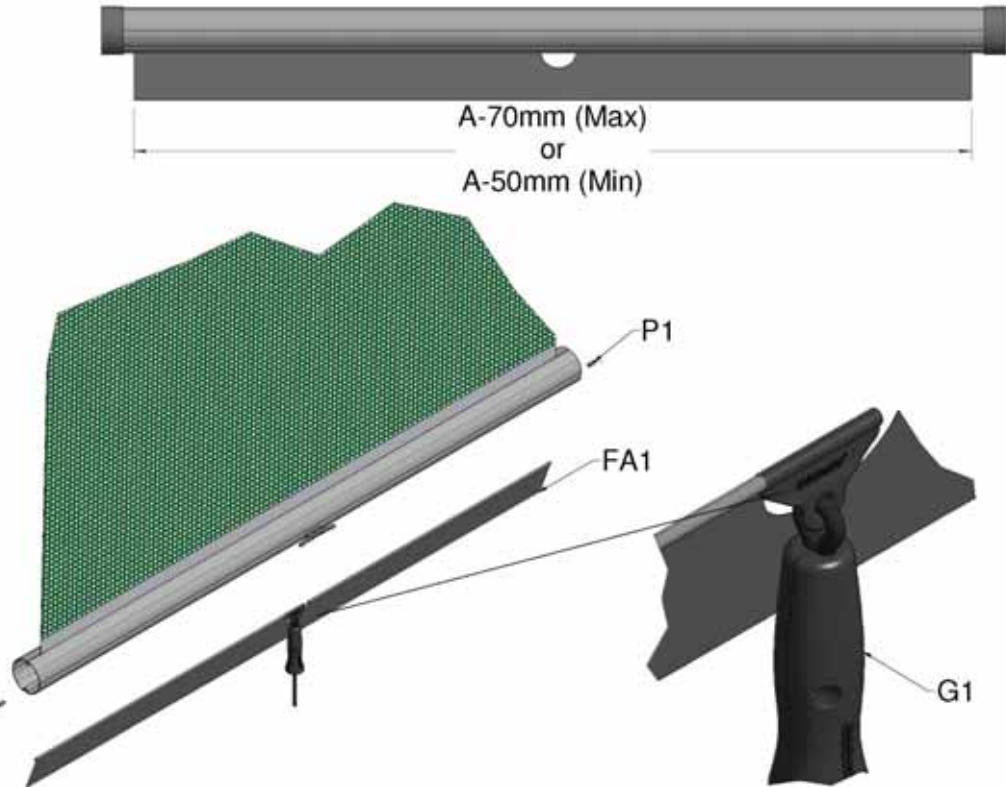

Figure 13, Bottom Flap Option
- F1. Cut bottom flap (FA1) to same length as screen. Cut out semicircle in the pocket edge, with a diameter of 10cm to accept the rope pull (G1). Position is dependant on installation; we recommend it to be in the tube's centre. (Figure 13).